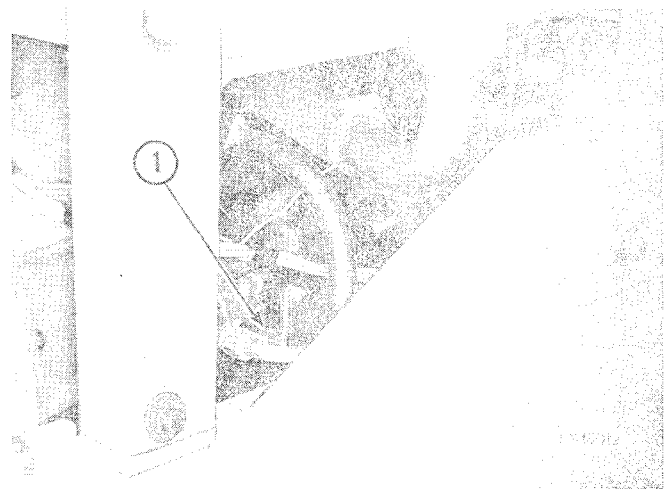

Figure 4-6
- b. Service gauge may be attached to converter "OUT" tap (1, Fig. 4-6) on pump to valve high pressure line at the pump end.